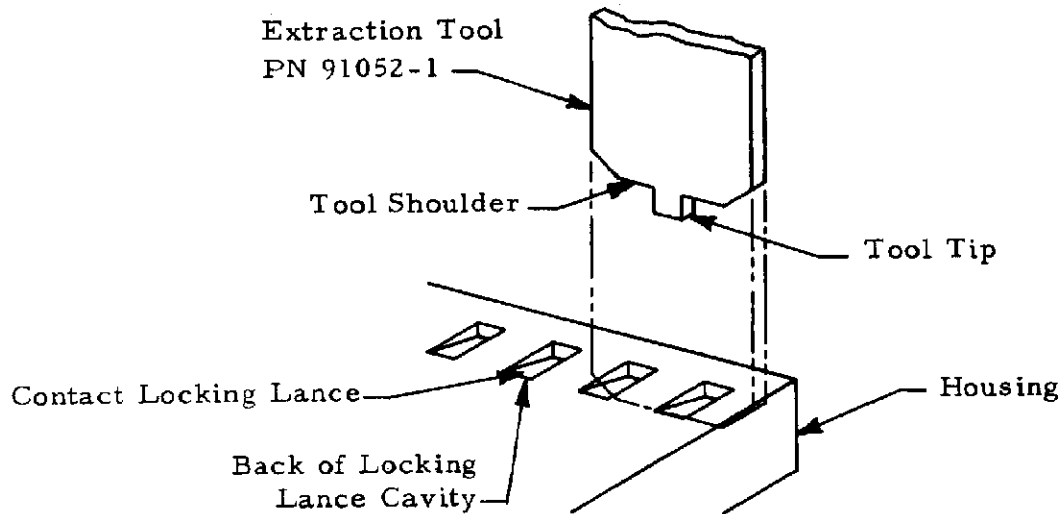

Figure 7
- A. Align tool tip with back of locking lance cavity as indicated in Figure 7.